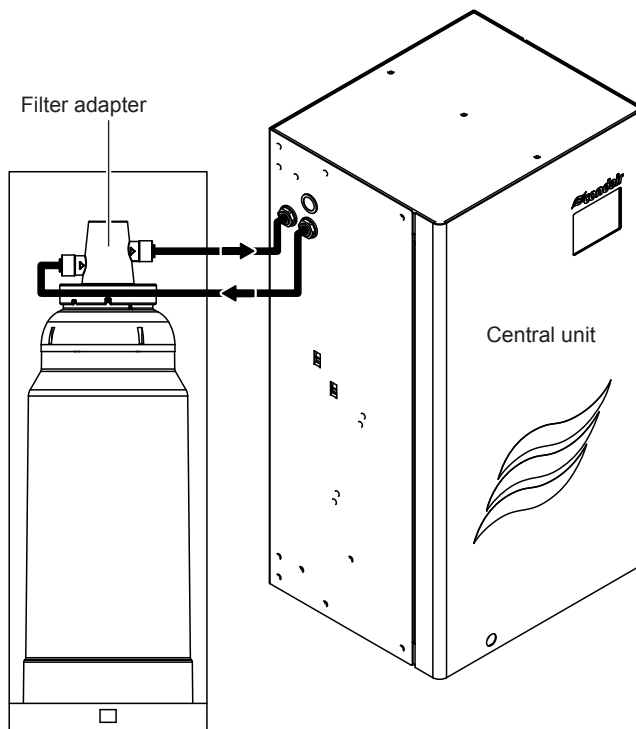
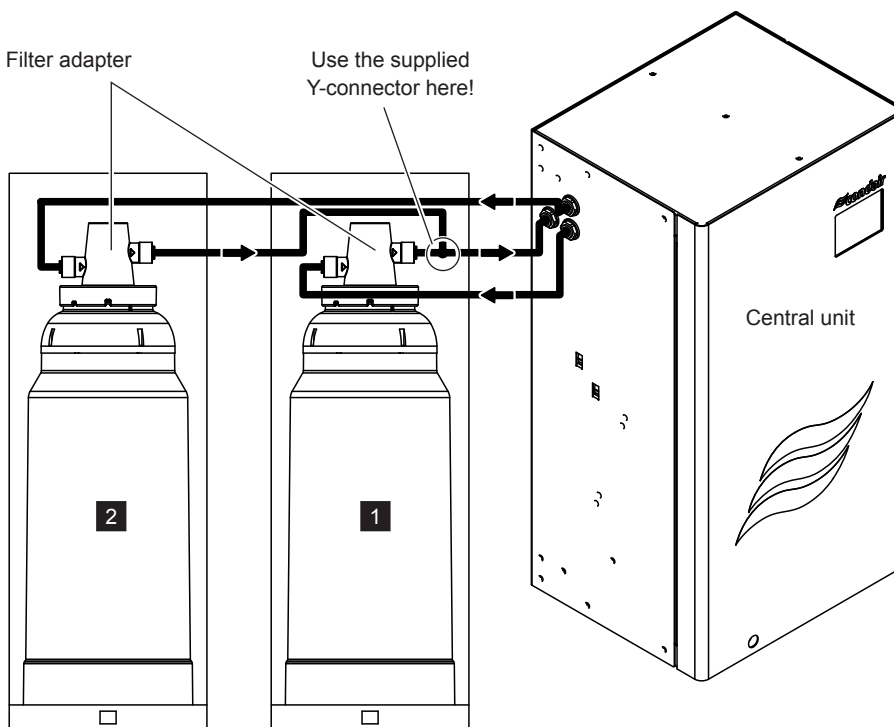

Fig. 14: Connection diagram with one water filter
Fig. 15: Connection diagram with two water filters
8. Connect the water hoses between the filter adapter and the central unit according to Fig. 14 or Fig. 15.